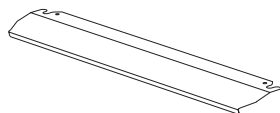

Figure 26
1. A safety panel is designed to protect control panel and the buttons when the oven is in Grill mode (Figure 26)